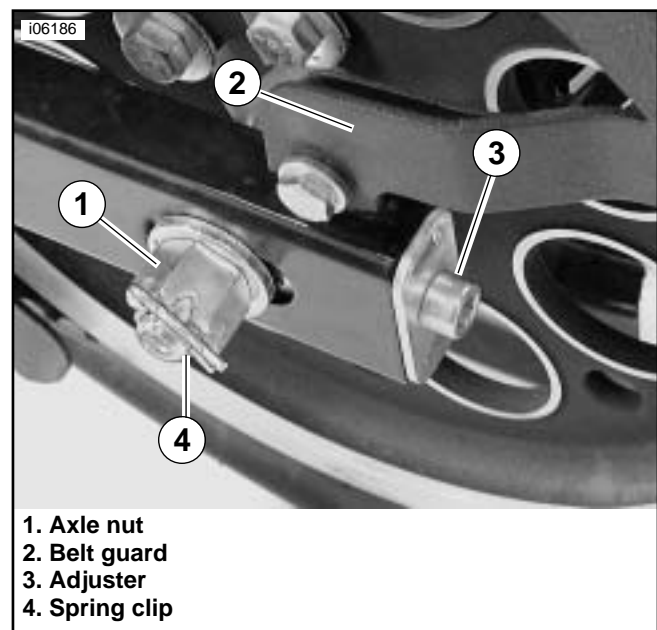

Figure 1. Axle
2. See Figure 1. Remove spring clip (4) (if present) and loosen rear axle nut (1).
3. Loosen rear axle adjuster (3) (or adjuster nut, if so equipped) on each side of motorcycle, and move rear wheel to full forward position.
5. Inspect sprockets and belt guard (2) for damage and/or debris. Remove any debris. If sprockets and belt guard are not damaged, proceed with the installation.
13. See Figure 1. Firmly tighten the rear axle nut and install the spring clip. Recheck belt deflection and re-adjust as necessary.